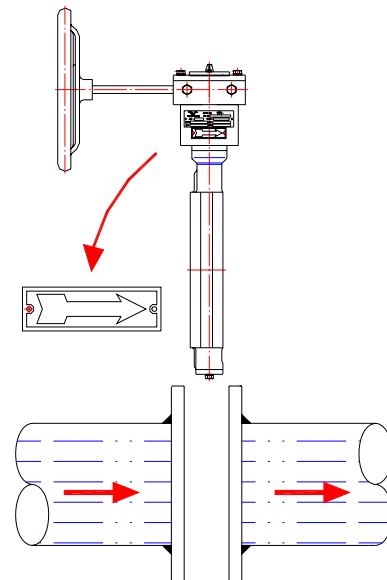

Fig. 12
- 5.3. The shaft side of the disc is considered the high-pressure side of the valve, (as indicated on the drawings by a flow arrow) meaning the best closure performance is obtained on this side of the valve, and a determination as to the best installation should be made, to utilize this feature. This may not necessarily be the normal flow direction of the system. (Fig.12).